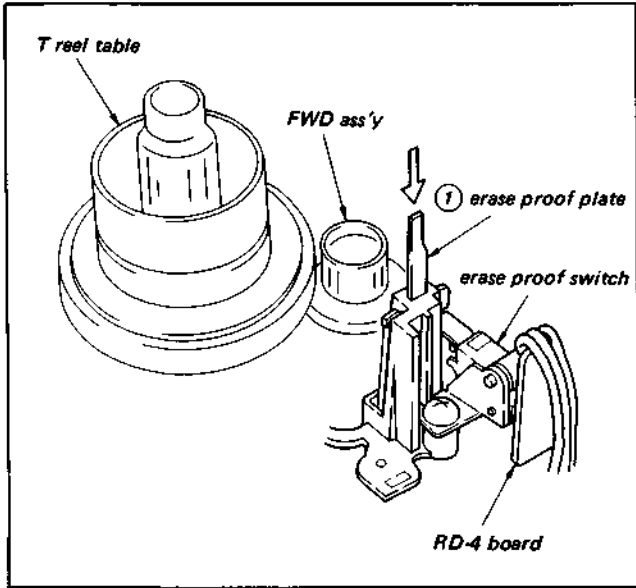

Fig. 1-8. Setting up RECORD mode without cassette
4. To set up RECORD mode without cassette installed (Fig. 1-8)